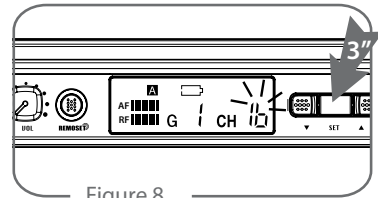

Figure 8
- (1) Press “Set” button ④ for 3 seconds, the group (G) in the “Group & Channel” area will flash. (Figure 8)
- (2) Press “▲Up” ② or “▼Down” ③ button to select a desired group.
- (3) Press “Set” again and the Channel(CH) in the “Group & Channel” area will flash.
- (4) Press “▲Up” or “▼Down” button to select a desired channel.
- (5) After setting, press “Set” again to save the setting.